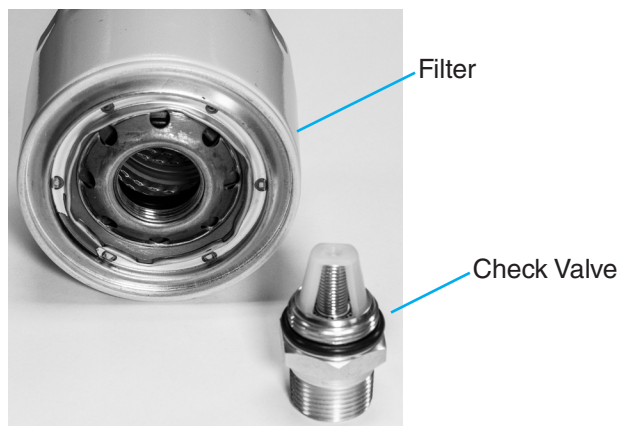

Figure 5-5-19 Breather Assembly
5. Remove the check valves. Discard the old filters in accordance with local regulations. See Figure 5-5-19.